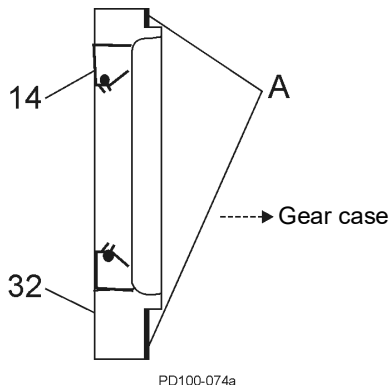

Figure 287 - Install Bearing Retainer
18. Coat the retainer flanges with silicone sealant (Figure 287, item A). (Gore-Tex® sealing tape can be used on silicone free models.) The grease seal (item 14) will be flush with the front of the bearing retainer. On 030 models, the grease seal will be against the step on the inside diameter of the retainer.
19. Install the bearing retainers (Figure 287, item 32).